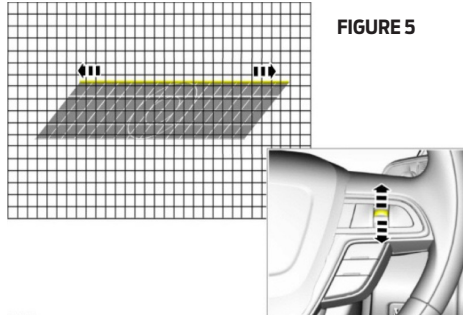

FIGURE 5
16. Using the Up and Down button, remove the horizontal distortion from the image (**Figure 5**). Press OK to save the adjustment. Press Return to exit to the previous menu.